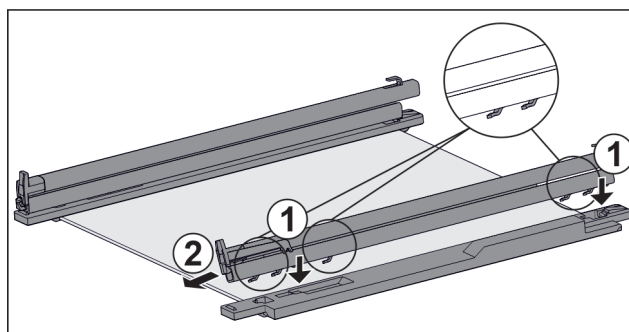

Fig. 121 Glass shelf with rails and retaining parts
- ▶ Place rail hooks onto the openings of the **left** retaining part. *Fig. 121 (1)*
- ▶ Push rail forwards. *Fig. 121 (2)*
- ▶ Place rail hooks onto the openings of the **right** retaining part. *Fig. 121 (1)*